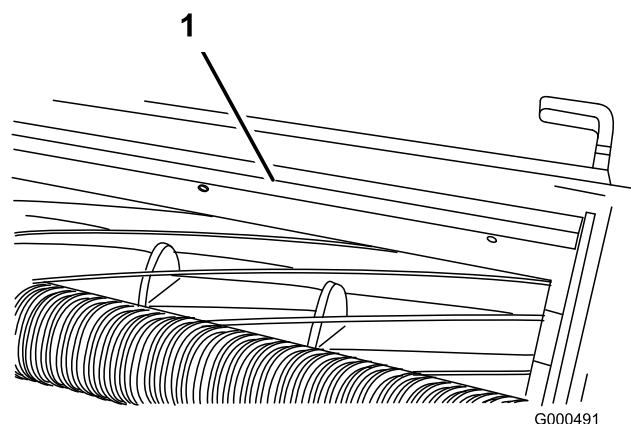

Figure 18
- Loosen the screws securing the top bar (Figure 18) to the cutting unit.